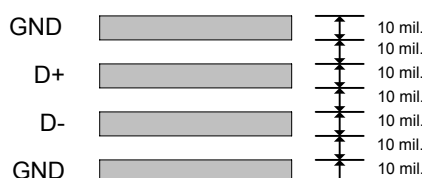

FIGURE 10 – SUGGESTED MINIMUM TRACK WIDTH AND SPACING
2. The Dx+ and Dx- tracks should be kept close together, in parallel with grounded guard tracks on each side. Using wide tracks will help to minimize inductance and reduce noise pickup. A 10 mil track minimum width and spacing is recommended. See FIGURE 10.